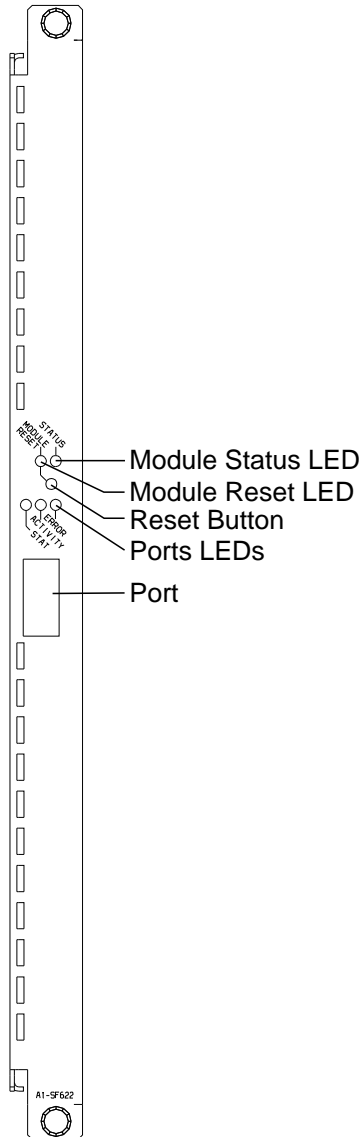

Figure 6. 622 Mbps Module Front Panel
Refer to Figure 6 when installing and configuring the 622 Mbps module.
- The port and module LEDs on the module faceplate (see Figure 6 on page 29)